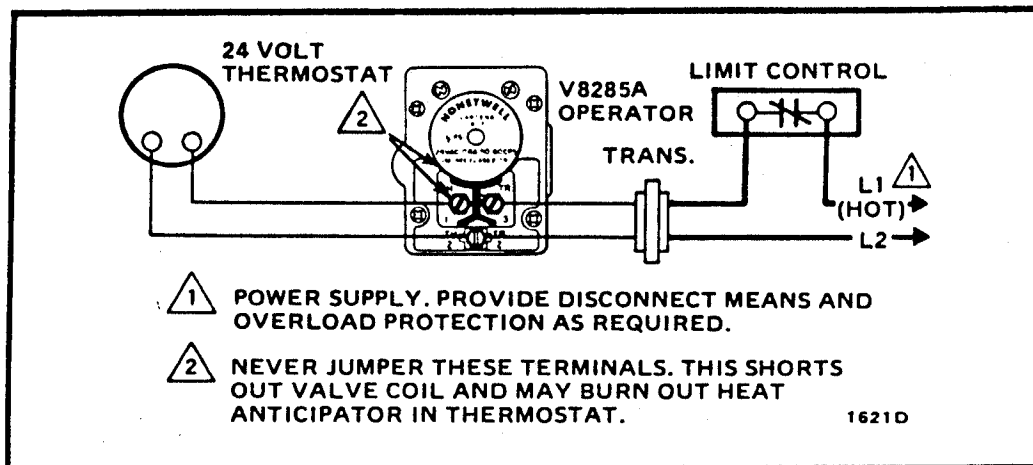

Fig. 31—Typical wiring diagram for V8285.
1. Install low voltage thermostat and other controls as required, following the appliance manufacturer's instructions. All wiring must comply with applicable electrical codes (Fig. 31).